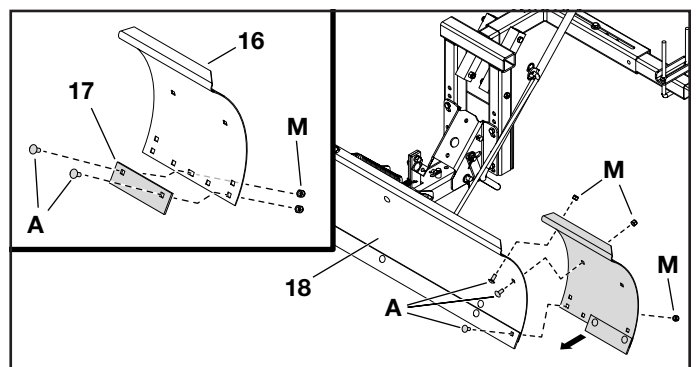

FIGURE 16
STEP 16: (SEE FIGURE 16)
- Attach the wear plate (17) to the blade extension (16) using two carriage bolts (A) and two hex nuts (M). Tighten hardware.
- Attach the blade extension (16) to one end of the blade assembly (18) using three carriage bolts (A) and three hex nuts (M). Tighten hardware.